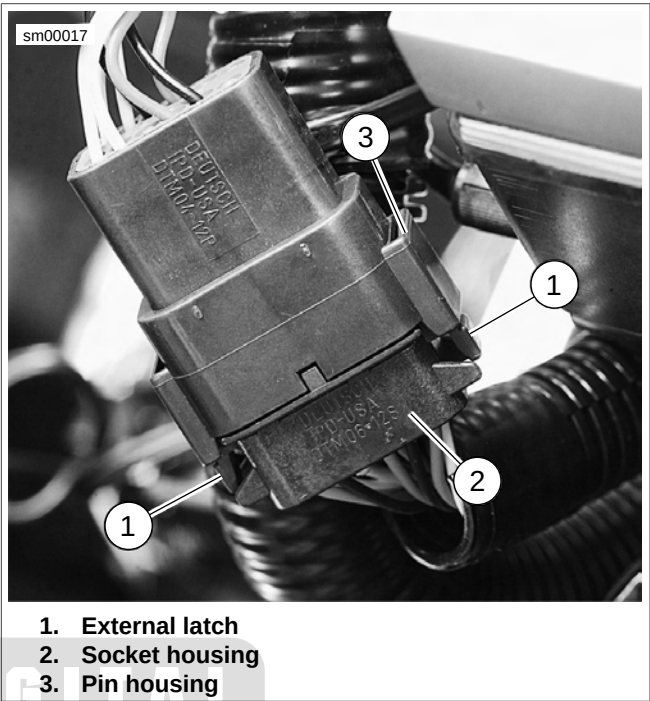

Figure A-26. Deutsch DT Sealed Connector
See Figure A-26. To separate the connector halves, Press the external latch(es) (1) on the socket housing (2) while rocking the pin (3) and socket housings.